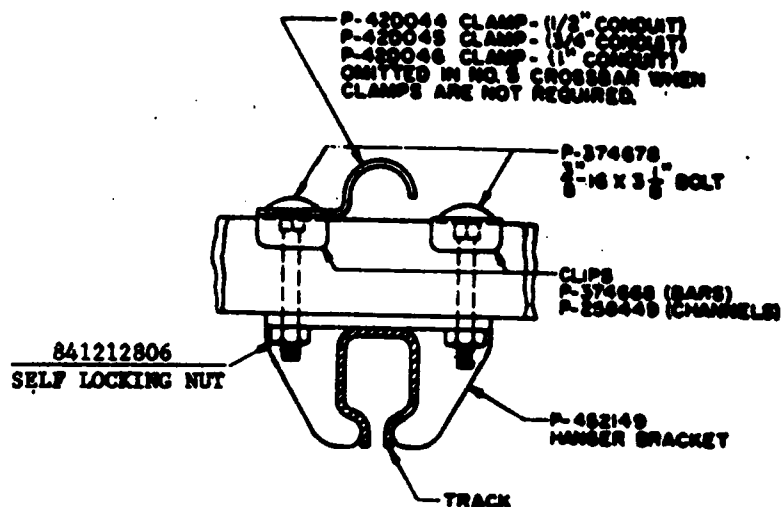
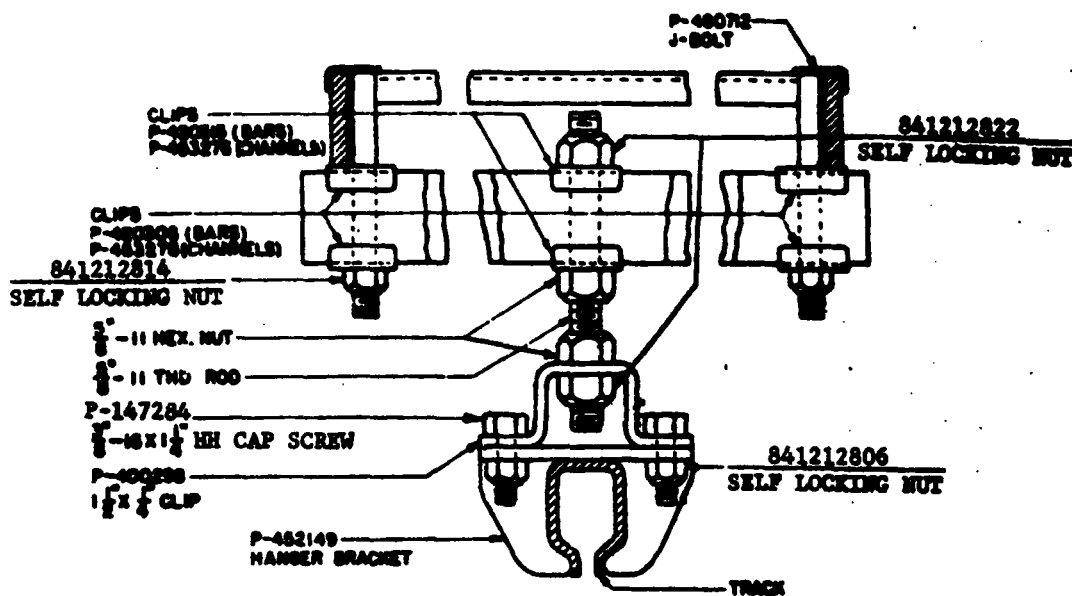

FIG. 11 TRACK SUPPORTED DIRECTLY FROM AND AT RIGHT ANGLES TO AUXILIARY FRAMING
FIG. 15 TRACK SUPPORTED WITH EXTENSION ROD FROM CABLE RACK MORE THAN 2'-1" IN WIDTH (PARS. 4.313, 4.411, 5.41 and 5.43) (BSP 800-614-159 FIG. 15)
- 4.211 When clamps for conduit located above a ladder track are secured by one of the hanger bracket bolts as shown in Figures 11 and 11A, the conduit clamp should be installed at the same time as the bolt.
(BSP 800-614-159 FIG. 11)
5.43 Where tracks are to be supported under cable racks that are supported by low-type auxiliary framing, the track shall be attached to the cable rack supporting bars as shown in Figures 11 or 12. If track supports are required at points between the cable racks supports, pairs of bars or channels shall be attached to the cable rack as shown in Figure 15. The track is then supported from these bars or channels as shown in Figures 11 and 12.